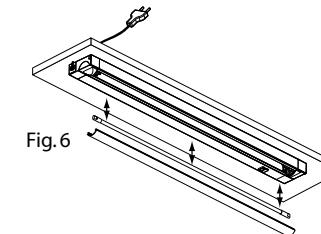

Fig. 6
- 9.1.3. Remove the screen as shown in fig. 6
- 9.1.4. Take out the fluorescent tube, fig. 6.
- 9.1.5. Replace the linear fluorescent tube with one that has similar characteristics, that is 8-13W ø7mm base W4.3x8.5d fig. 6.
- 9.1.6. Refit the screen, fig. 6.